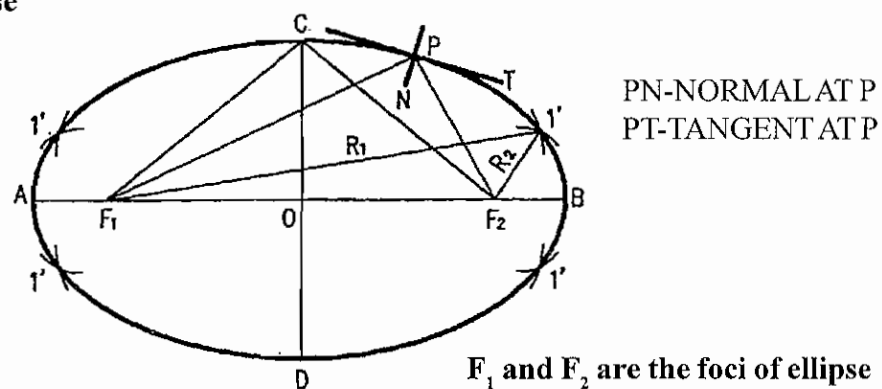

Fig. 2.21
- 1) The two fixed points are called the foci or foci, in fig. 2.21. F_1 and F_2 are the foci, F_1 and F_2 are equidistant from the centre O .